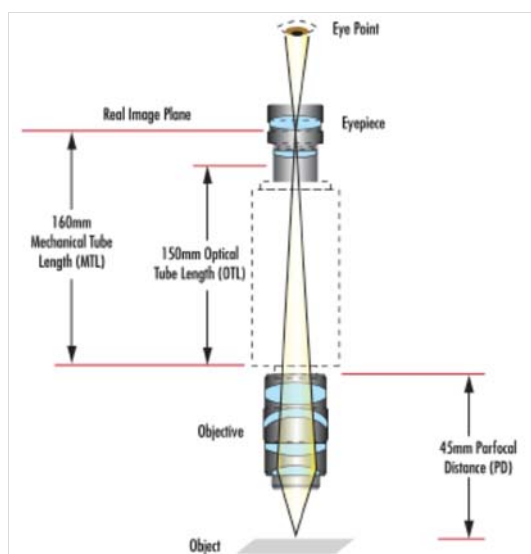
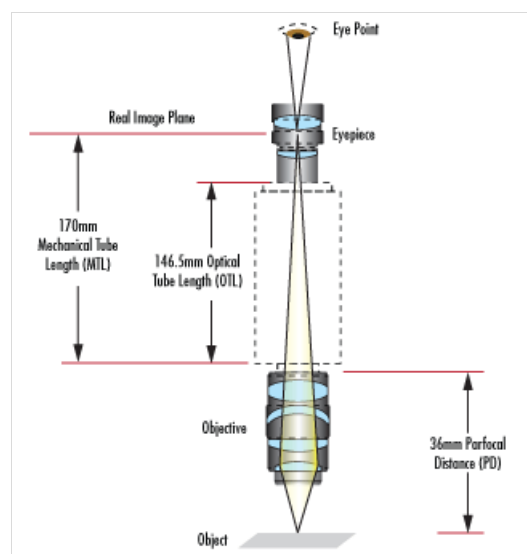

Figure 8: DIN Standard [View Larger Image]
Figure 9: JIS Standard [View Larger Image]
If the objective follows a simple microscope standard (such as DIN or JIS) then it is listed on the body to show what required specifications must be present within the system. Most compound microscopes employ the Deutsche Industrie Norm, or DIN, standard. **The DIN standard has a 160mm distance from the objective flange to the eyepiece flange (Figure 8).** The other available standard is the Japanese Industrial Standard, or JIS. The JIS standard has a 170mm distance from objective flange to eyepiece flange (Figure 9). Paying attention to these two distances is necessary when choosing the proper objective and eyepiece in order to make sure that the image projected from the former is properly imaged through the latter. Though the image distances are different for DIN and JIS, there is no difference in optical performance; they are equal in quality. Similarly, **each standard utilizes the same RMS mounting thread of 0.7965" x 36TPI.**
DIN and JIS have historically been used when considering a classic compound microscope. Some microscope manufacturers prefer to list the tube lens length by the optical properties instead of the mechanical. For a DIN standard objective, this changes the tube lens length to 150mm because the eyepiece is imaging the intermediate image plane (Figure 8). Lastly, there is a dimension typically listed for objectives to allow the user to consistently know what length it is: the parfocal distance (PD). The parfocal distance is the distance from the flange of the objective to the object under inspection. For DIN objectives this distance is a standard 45mm and for JIS is it 36mm (Figures 8 and 9).